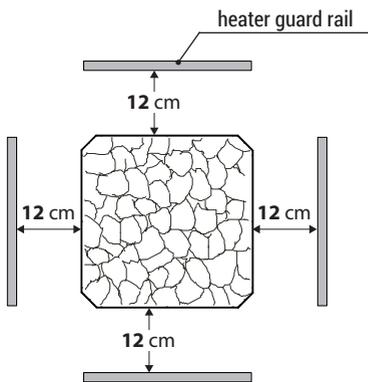

Fig. 2
- The side (horizontal) gaps between the heater and the cabin wall or the guard rail, bench and other flammable materials are stated in Fig. 2.